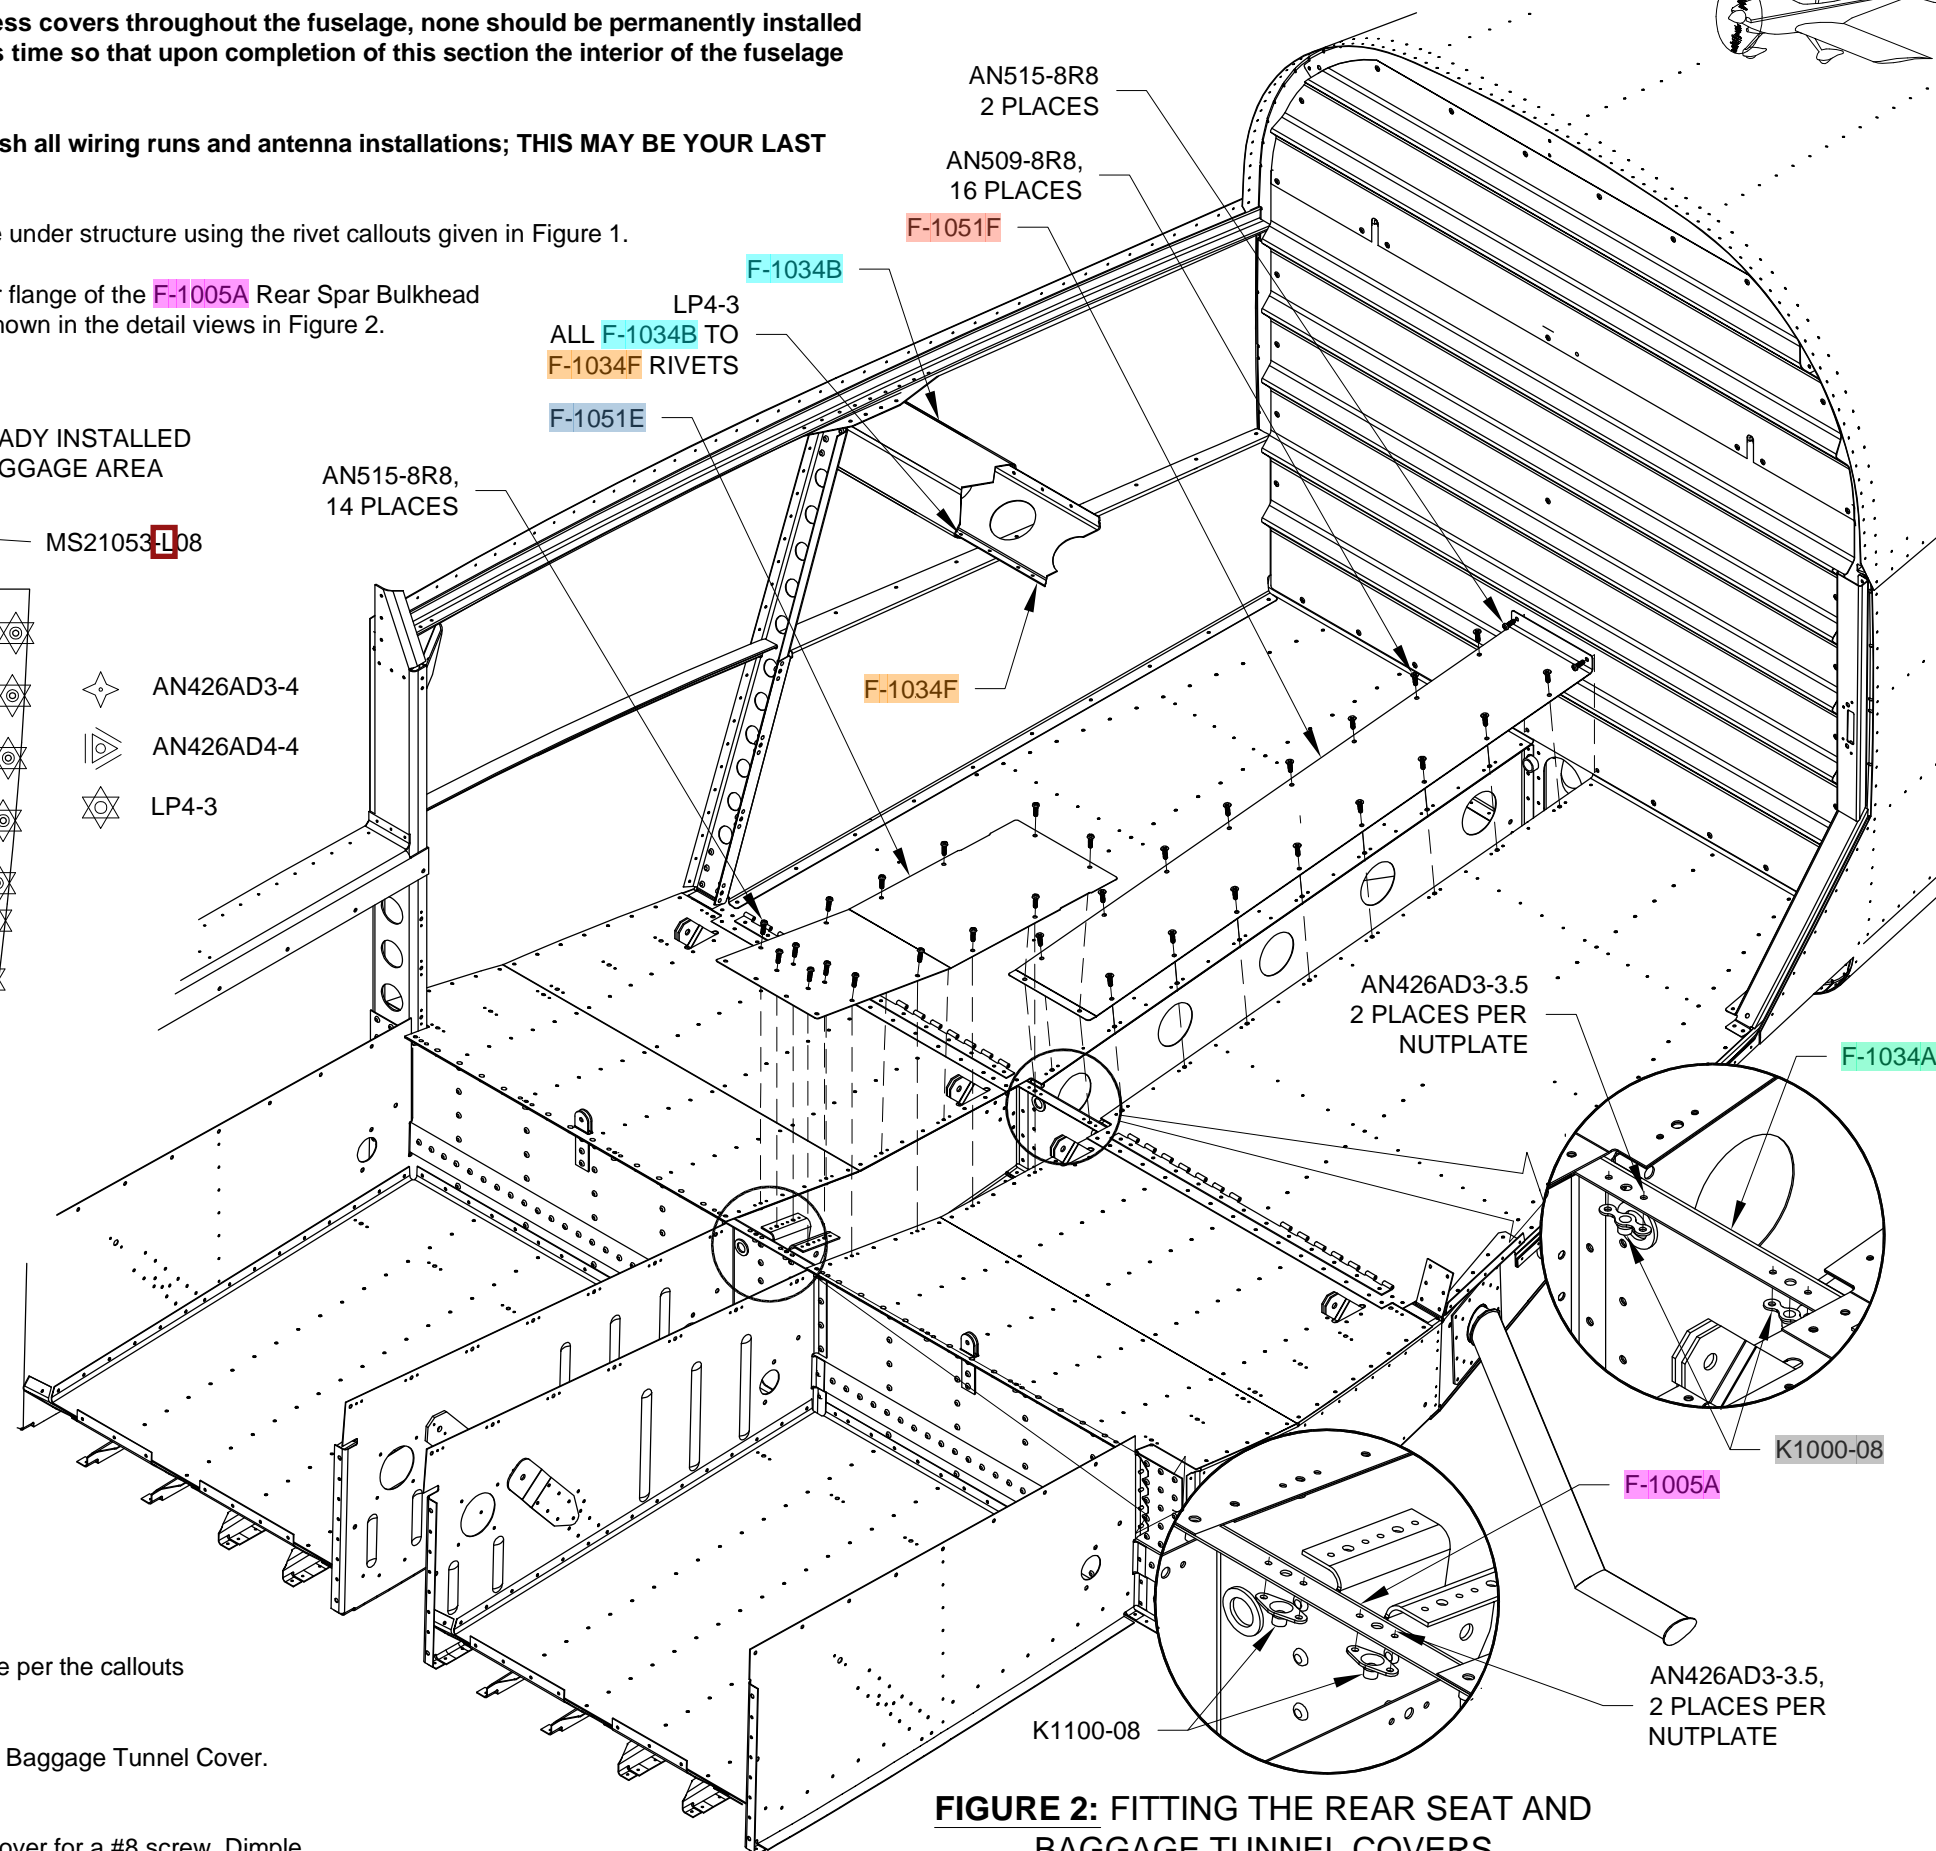

FIGURE 2: FITTING THE REAR SEAT AND BAGGAGE TUNNEL COVERS
Step 5: Final-Drill #19 all the screw holes in the **F-1051E** Rear Seat Tunnel Cover and **F-1051F** Baggage Tunnel Cover. Deburr the holes and edges in these covers. See Figure 2.
Step 6: Dimple the four screw holes along the forward edge of the **F-1051E** Rear Seat Tunnel Cover for a #8 screw. Dimple all the screw holes in the **F-1051F** Baggage Tunnel Cover for the head of an #8 screw except the two holes along the forward edge and the two holes in the aft flange. Prime covers if desired. See Figure 2.
Step 3: Install the **F-1025-R** Rear Seat Cover Panel using the hardware (except the upper flange hardware) called out in Figure 2.